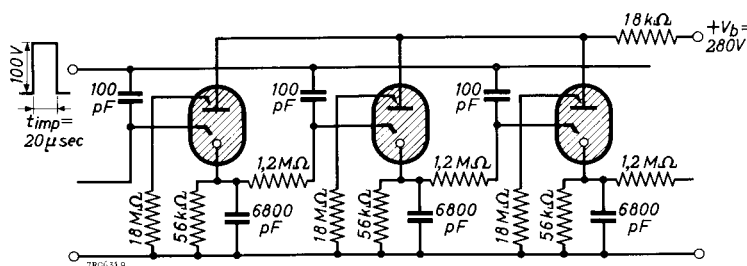

Fig.13b. Recommended counting circuit.
³) Circuit Fig.13b.
⁴) Circuit Fig.13b; see also operational notes.
6. If square starter pulses are used, attention should be paid to the trailing edge of the pulse at high amplitudes. When using the circuit of Fig.13b with pulses of more than 100 V amplitude, a trailing edge as defined by a time constant of at least $50\text{ }\mu\text{sec}$ must be used. In special cases the tube manufacturer should be consulted.